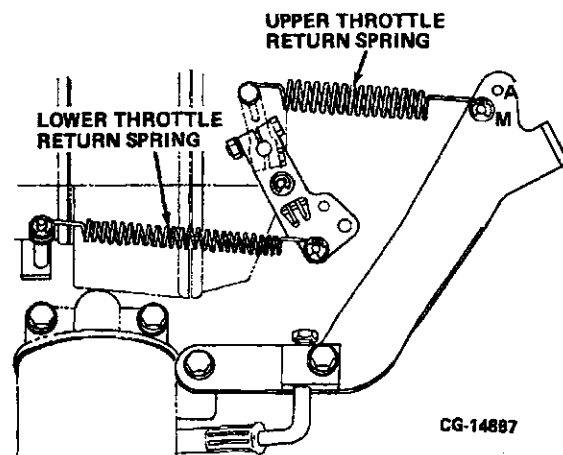

Figure 11.89. Install the Throttle Return Springs
14. Connect the throttle return springs as shown in Figure 11.89.